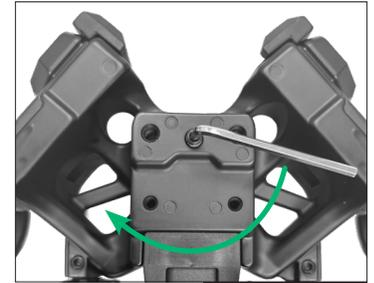

FIGURE 4
- 7** Insert the riser bolt locking screw (Part G) and firmly tighten it down using the small hex wrench (Part I). This helps prevent the riser bolt from loosening during crossbow use. See Figure 4.